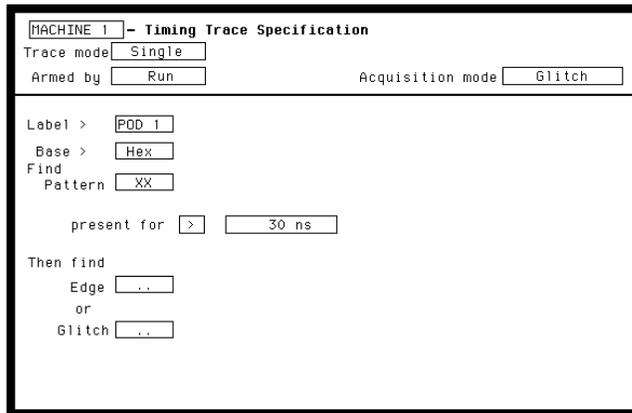

Figure 3-37. Threshold Accuracy Trace Specification
- 4. Set **Timing Trace Specification** as in figure 3-37. Follow steps a through c if unfamiliar with menus.
11. Press RUN. Data displayed on **Timing Waveforms** all high for the pod and channels under test as in previous test figure 3-37.